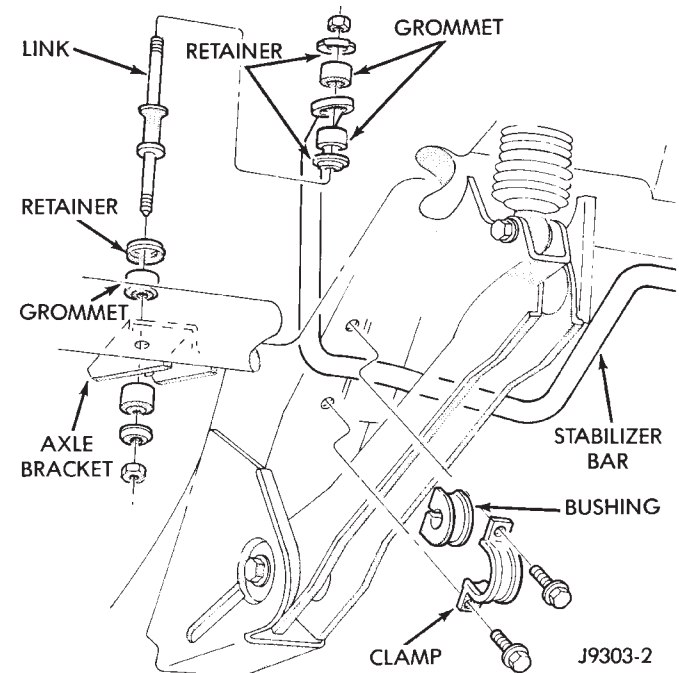

Fig. 4 Rear Stabilizer Bar
- (1) Raise and support the vehicle. Remove one wheel and tire.
- (2) Disconnect the stabilizer bar links from the axle brackets (Fig. 4).
- (3) Lower the exhaust by disconnecting the muffler and tail pipe hangers.
- (4) Disconnect the stabilizer bar from the links.
- (5) Disconnect the stabilizer bar clamps from the frame rails. Remove the stabilizer bar.